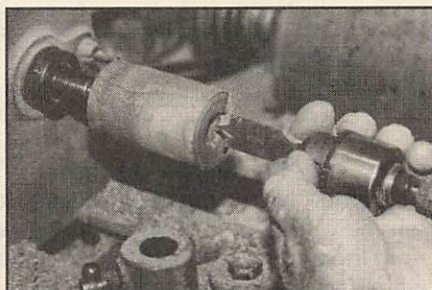

Fig. 11. Drilling for depth to begin hollowing-out the Bell.
Step 3. To hollow the Bell, first drill for depth (see Fig. 11).